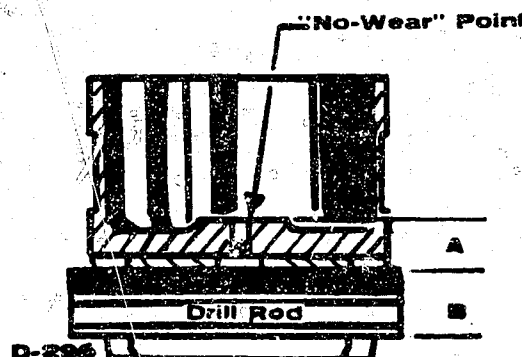

Figure 1
3. Subtract drill rod diameter from dimension obtained in paragraph 2. Should resulting dimension ("A" in Figure 1) be less than .158", replace tappet guide.